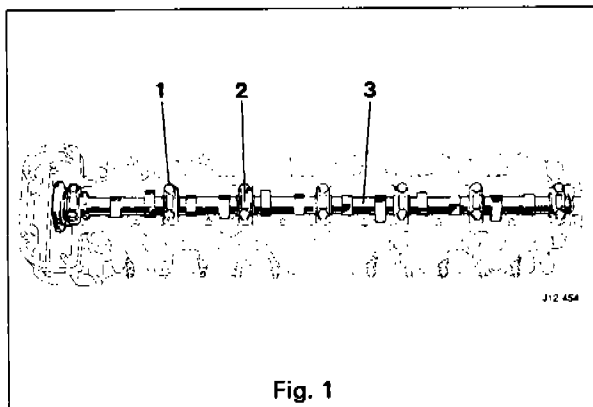

Fig. 1
- Remove the nuts/washers (1 Fig. 1) and lift off the bearing caps (2 Fig. 1).
- Remove the camshaft (3 Fig. 1).
- Retrieve the collets (1 Fig. 1), collars (2 Fig. 1), and spring retaining plates (4 Fig. 1).
- Remove the valves (5 Fig. 1), noting the relationship between valve and guide to ensure correct pairing during re-assembly.